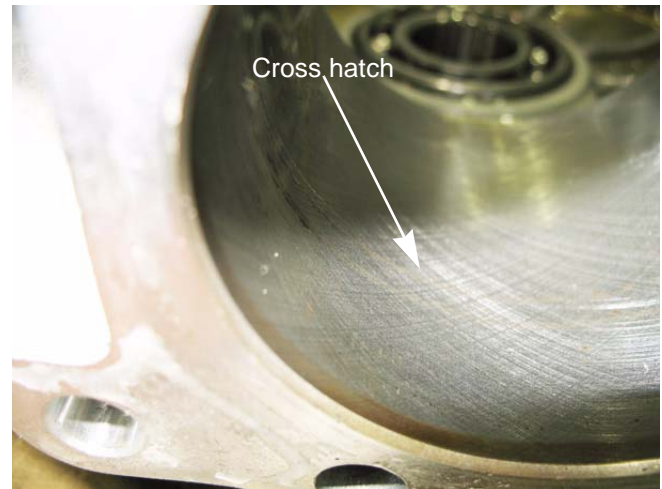

Figure 10.18
3. Inspect the cylinder cross hatch. See Figure 10.18.